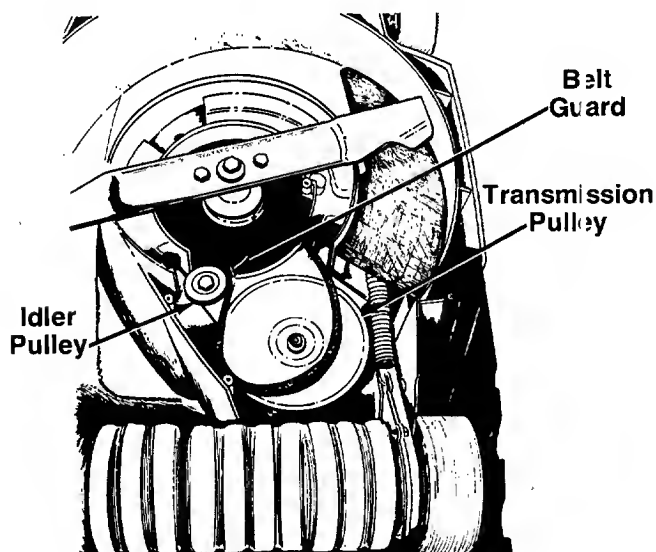

FIGURE 10.
5. Roll the belt off the transmission pulley. Remove the belt from between the idler pulley and belt guard. See figure 10.